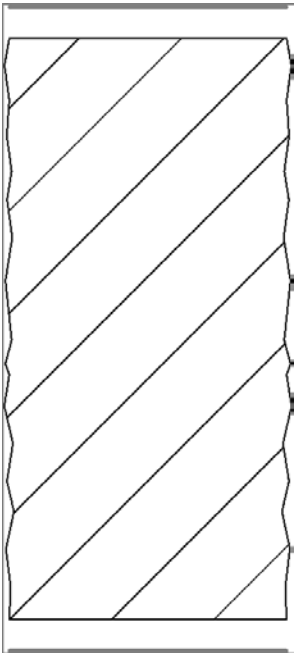

FIGURE 12.21: The finished soldier
18. Click Finish Edit Mode. Your brick should resemble Figure 12.21.